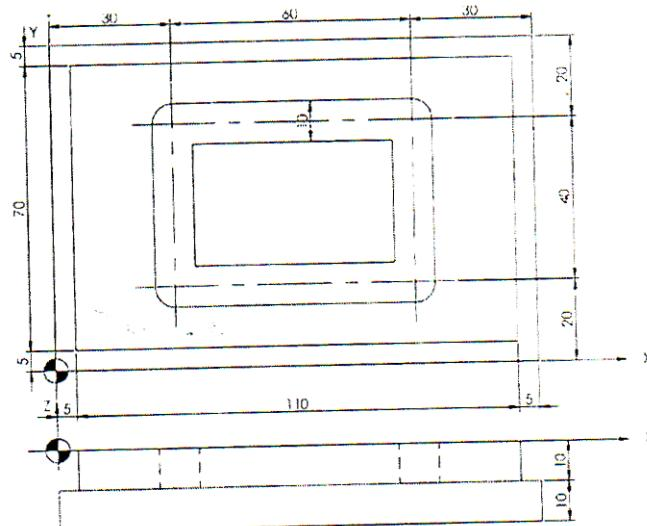

Fig. 3
- Q6)** a) Write CNC program using G and M codes to contour, face and drill the component shown in fig. 3. Use canned cycles wherever applicable. Thickness of blank is 7mm. Assume suitable data for speed and feed.[10]